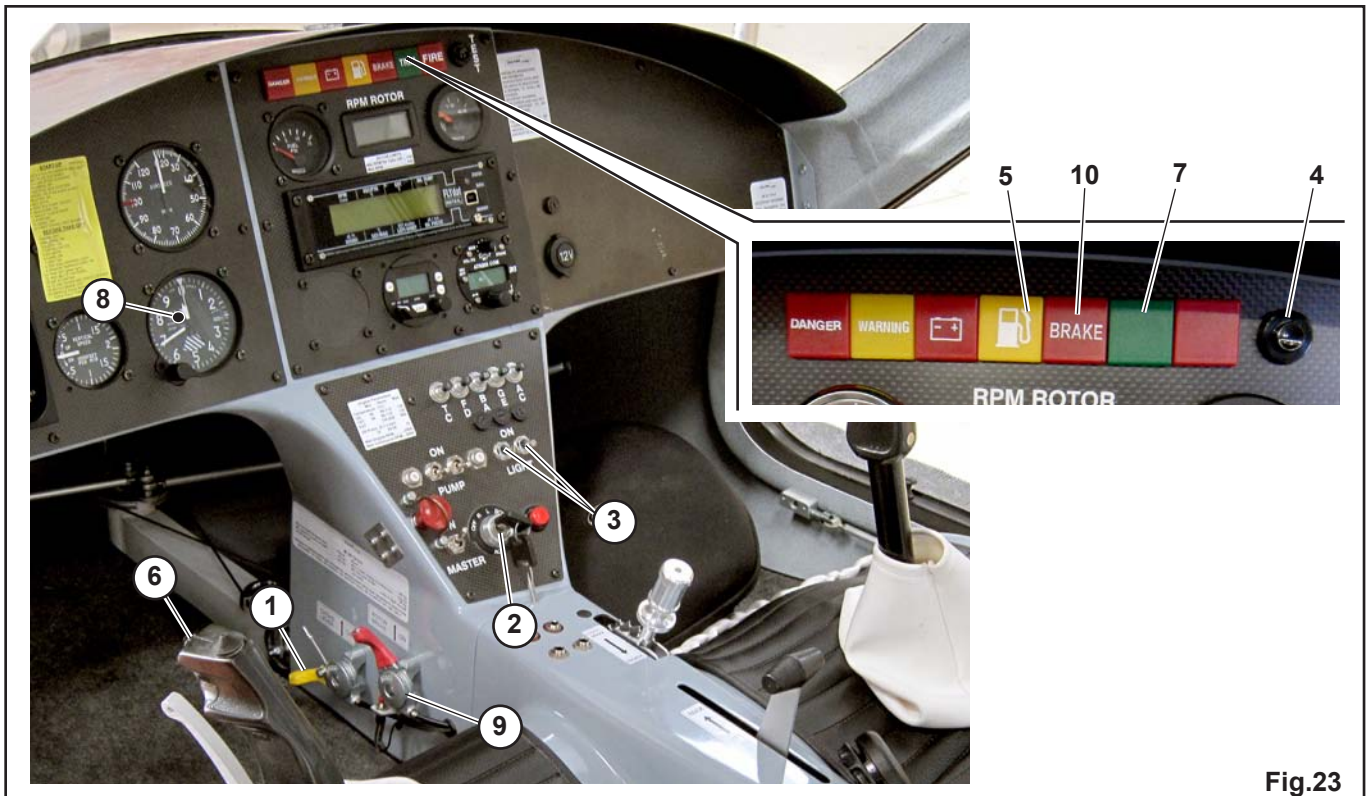

Fig.23
4.9 PRE-TAKEOFF CHECKS (Fig. 23)